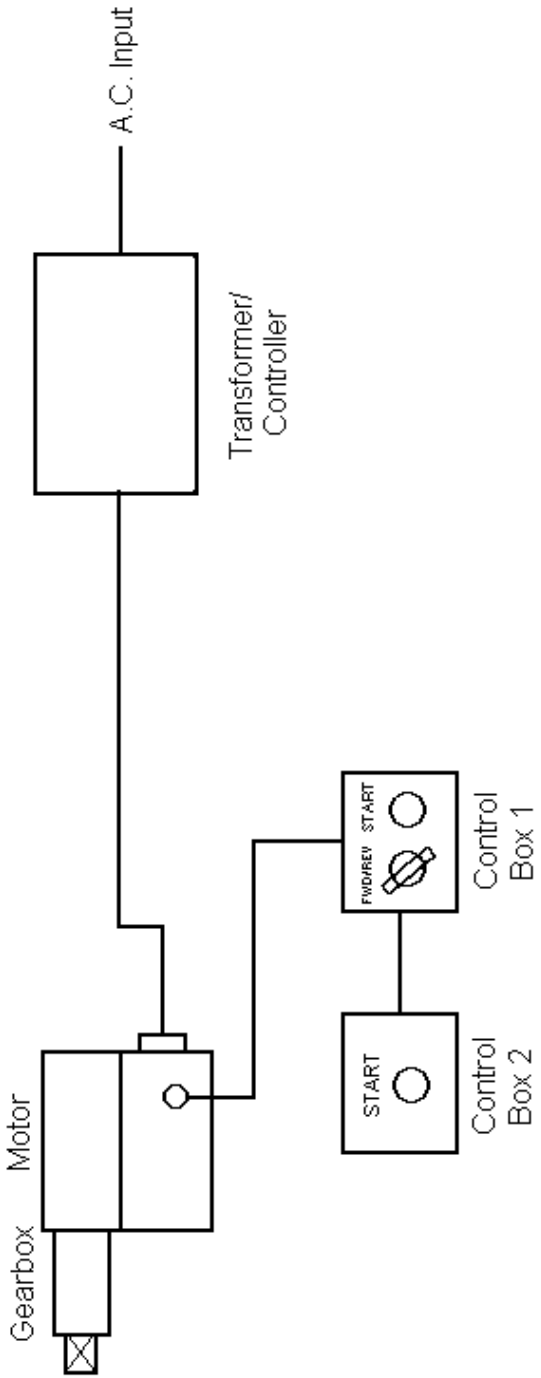

FIG 3
1. Fit the control box(es) to the required position. (as shown on block diagram, Figure 3). Connect to the tool.